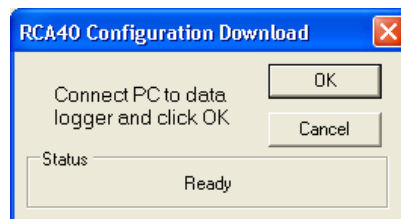

Figure 31 - Configuration Download Dialog
1. Choose **Setup ➔ Data Logger** from the main menu. The Configuration Download Dialog (Figure 31) appears.